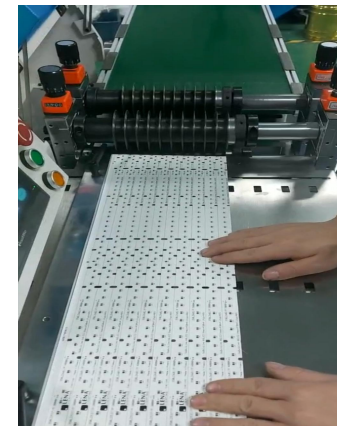

Figure 2
②Light strip board: about 10s each time, as an example in Figure 2 : **≈ 3500 pcs** (small board)